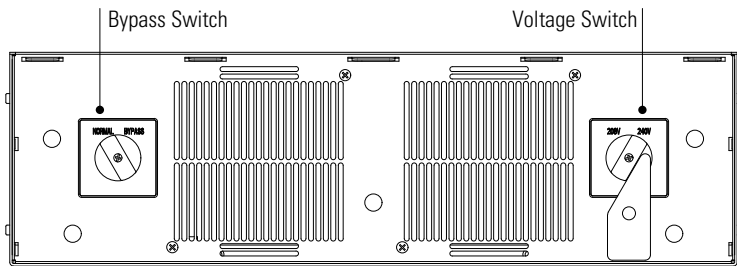

Figure 8. PPDM (with Front Cover Removed)
3. Verify that the bypass switch on the PPDM is in the NORMAL position (see Figure 8).
4. **Changing the PPDM voltage switch setting.** When the PPDM voltage switch is set to the 240V position (the default) with 240V input, the output voltage is 240/120V. When set to the 208V position with 208V input, the output voltage is 208/120V. See Table 1 for a list of PPDM input/output voltage settings. Figure 8 shows the voltage switch.